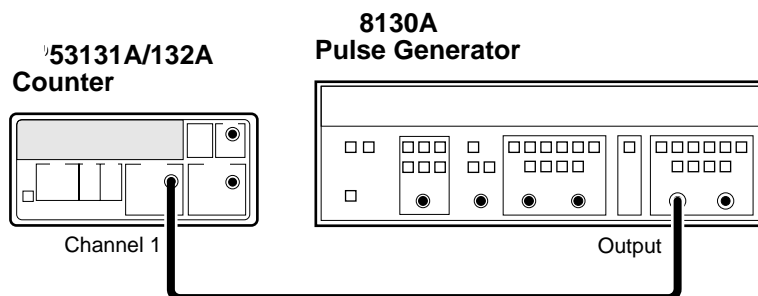

Figure 2-3. Calibration Setup for CAL: TI QUIK?
- 3 Connect the Agilent 8130A Pulse Generator output to Channel 1 of the Counter as shown in Figure 2-3.